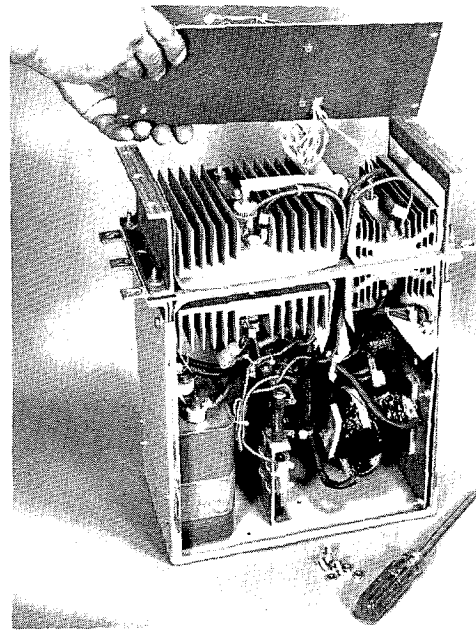

FIGURE 25
3. After locating the defective Press-Pak Main SCR cell (ISP and ISN) follow the instructions for Press-Pak Main SCR cells, 40—60 KVA; 230V AC units. See Figure 25.
4. After locating the defective stud mounted commutating SCR cell (CSP and CSN) follow the instructions for stud mounted commutating SCR cells, 10—30 KVA; 230V AC or 460V AC units. See Figure 25.